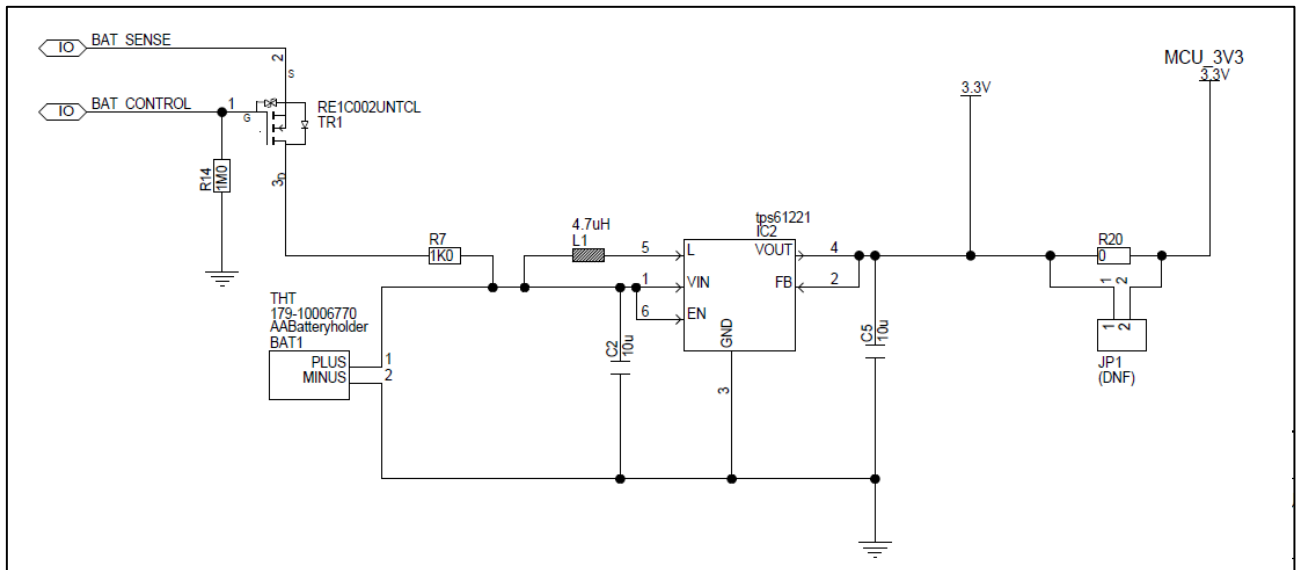
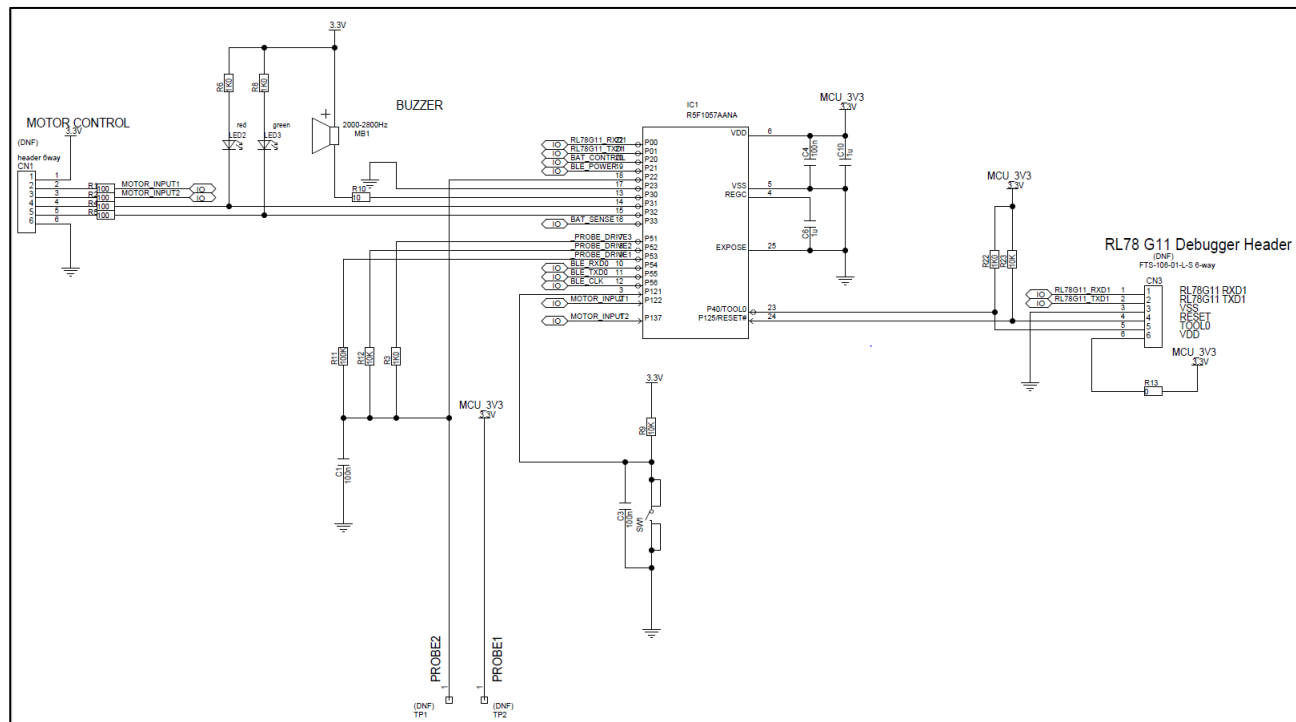
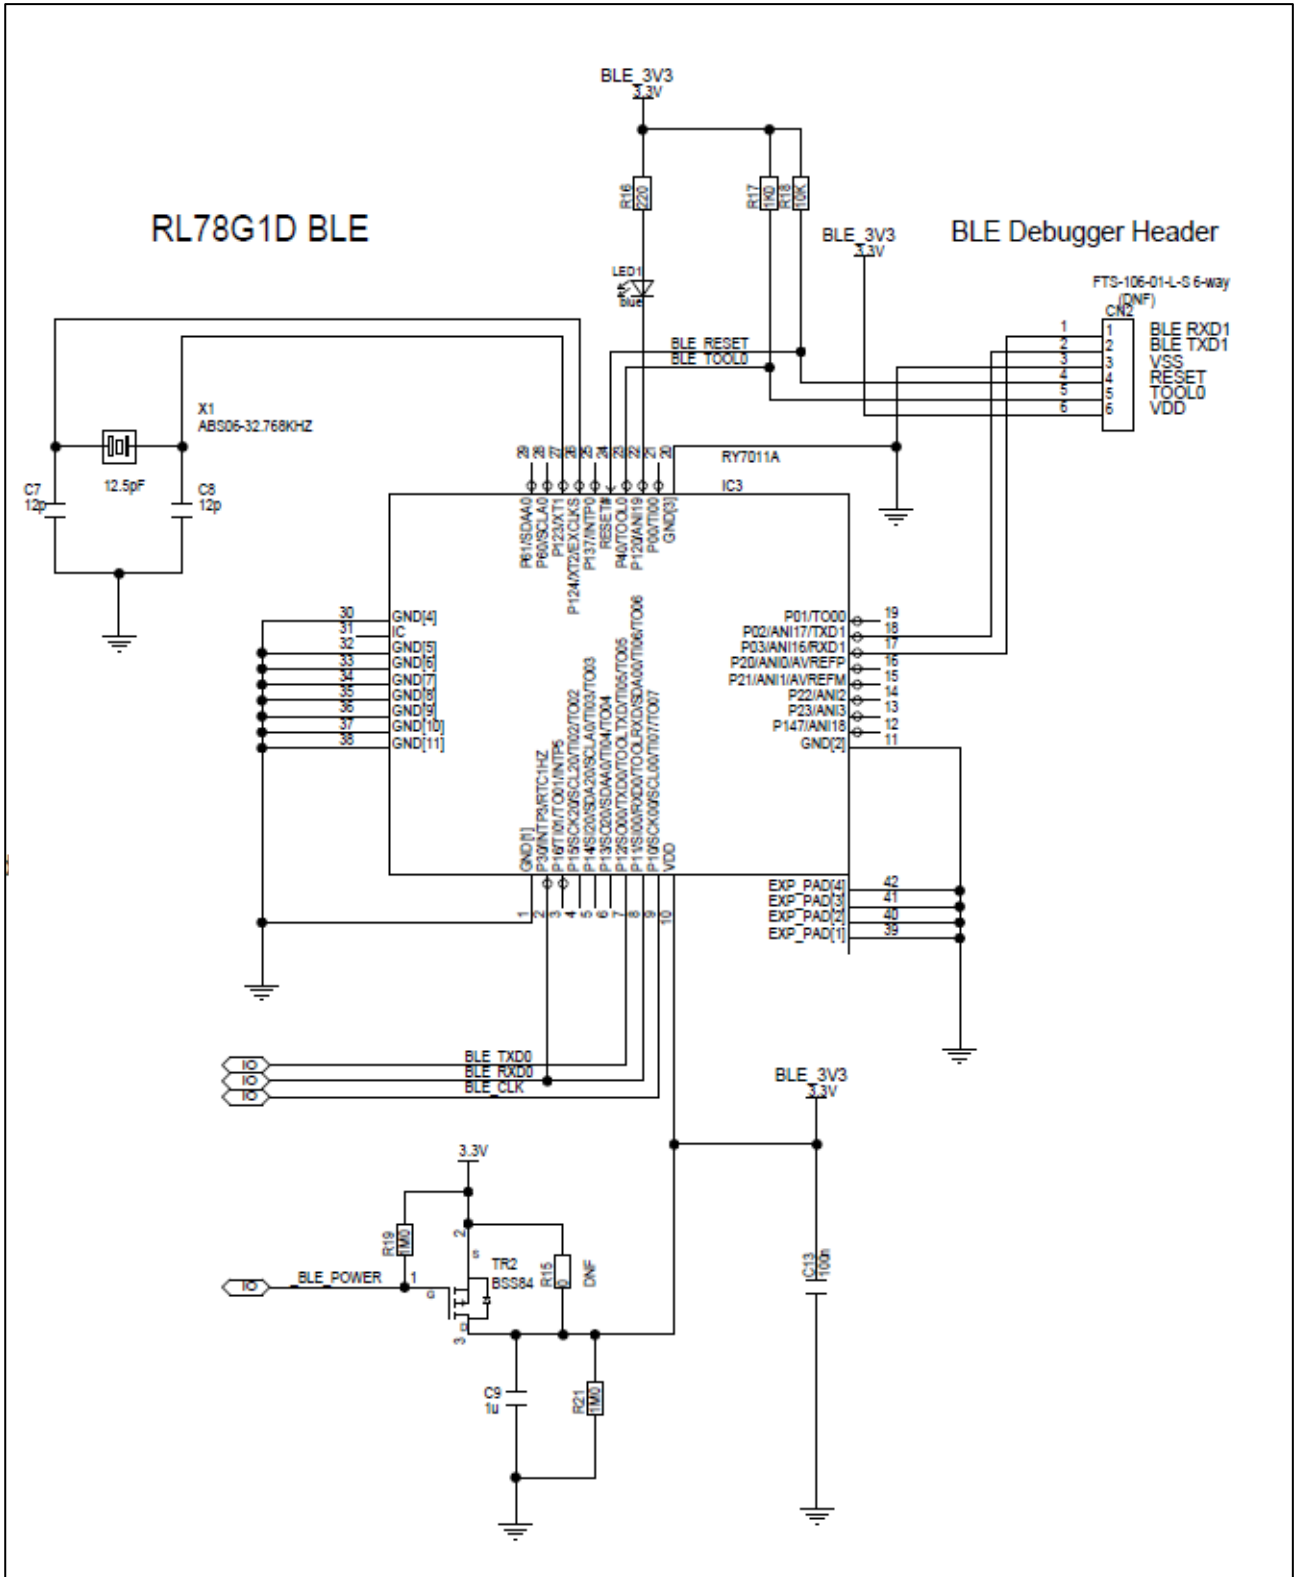

Figure 3-1 Power Supply Schematic
Figure 3-2 RL78/G11 Schematic
Figure 3-3 RL78/G1D BLE Schematic
The circuitry in the schematic is shown in Figure 3-1, Figure 3-2, and Figure 3-3.
- On RPB RL78 ensure that microcontroller is disconnecting by cutting the board at point B denoted in Figure 3-2.